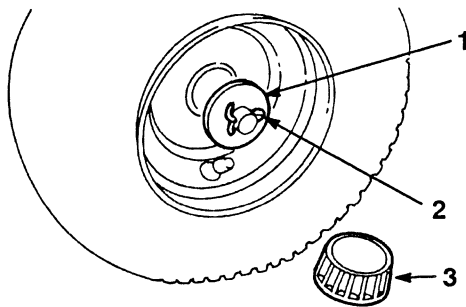

Figure 1
2. Slide the flat washer onto the axle. Insert cotter pin through the axle and bend the ends of the pin apart (Fig. 1).
3. Push the hub cap (Fig. 1) onto the end of the axle.